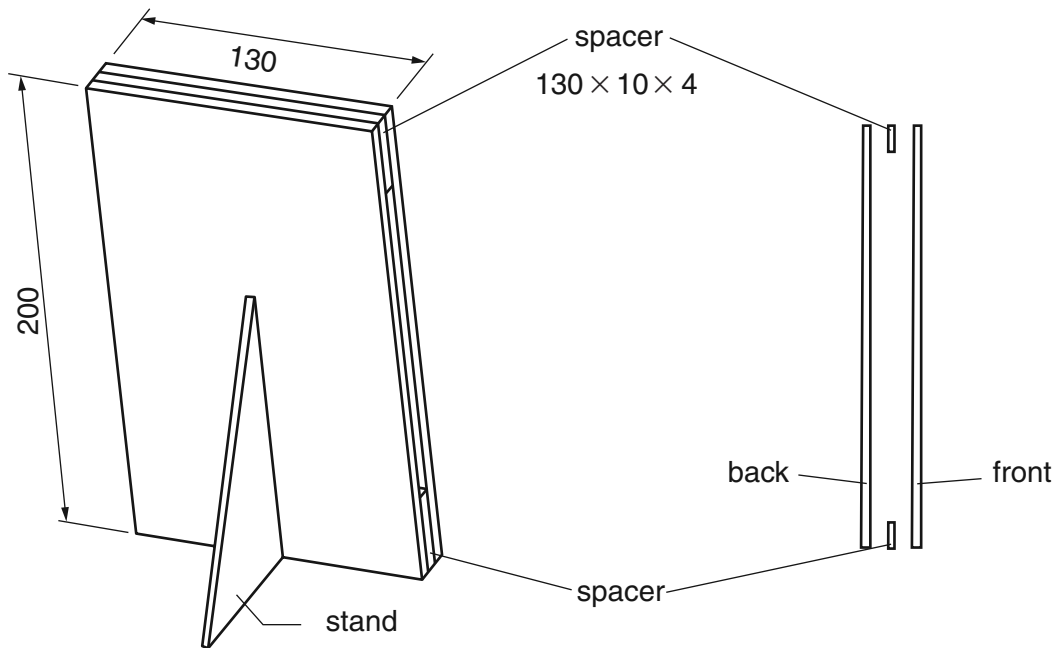
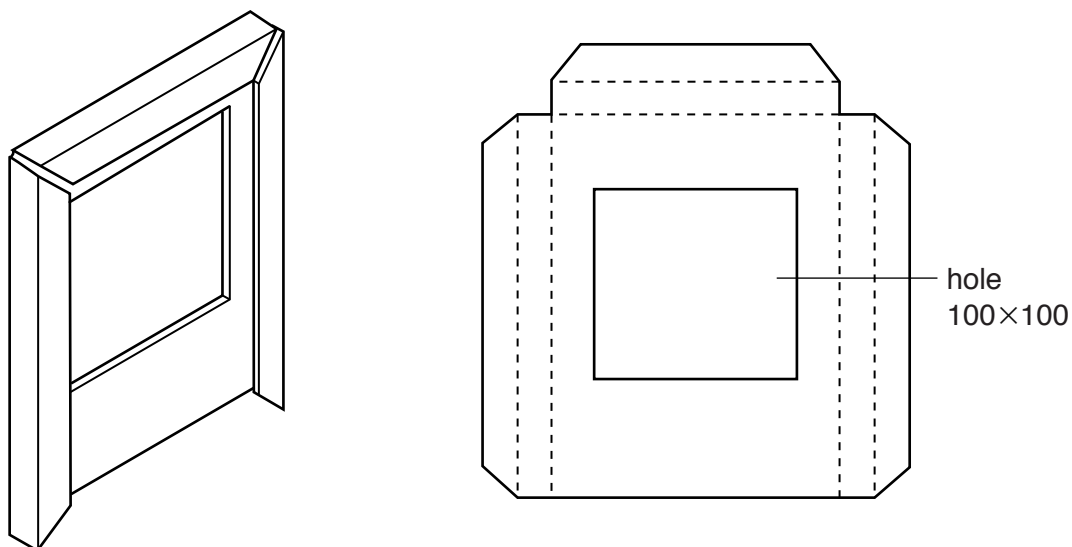

Fig. 6
Fig. 8
- 11 Fig. 6 shows detailed views of a photograph holder made from 4 mm thick clear acrylic.
- (c) Fig. 8 shows views of a photograph holder made from 1 mm thick aluminium sheet.
- (d) Use sketches and notes to show how you would cut out the square hole in the 1 mm thick aluminium sheet shown in Fig. 8.
- (f) A batch of twenty identical aluminium photograph holders will be made in a school workshop. Use sketches and notes to show how the sides of the aluminium photograph holder, shown in Fig. 8, could be folded accurately.
(g) There are benefits of using CAD (Computer Aided Design) and CAM (Computer Aided Manufacture) when designing and making the photograph holders in Fig. 6 and Fig. 8.